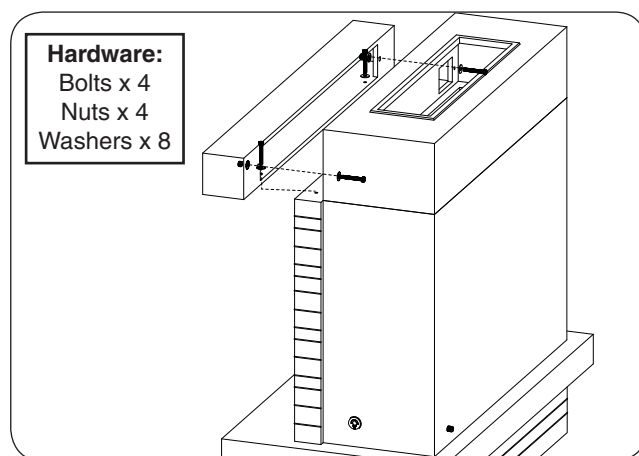

Fig. 17-2 Assemble mantel
1. Place the mantel on top of the fascia and against the chimney. Carefully align the pilot holes, and repeat the hardware installation process. See Fig. 17-2.